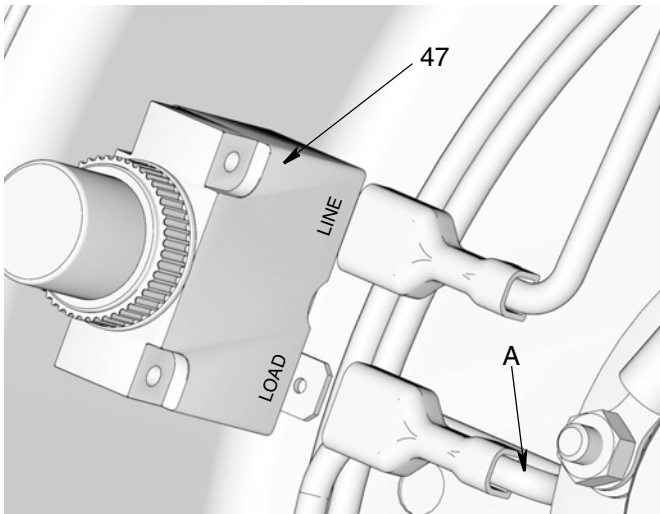

FIG. 8
12. **For 230V models only** disconnect the brown wire (A) from the over current protection device (47). Remove wire from “LOAD” side of device. (FIG. 8)
2. **For 230V models,** attach brown wire to over current protection device. (FIG. 8)